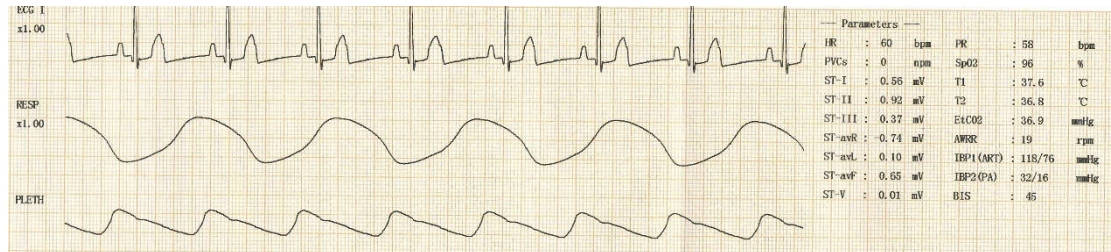

Figure 21-3: Alarm Event Printing Report
The printing content includes information such as patient name, patient ID, alarm time, heart rate (HR), blood oxygen (SpO₂), pulse rate (PR), NIBP (systolic blood pressure (SYS)/diastolic blood pressure (DIA)), respiratory rate (Resp), temperature (Temp), ST segment, alarm type, and hospital name. Printing example is shown in Figure 21-3: